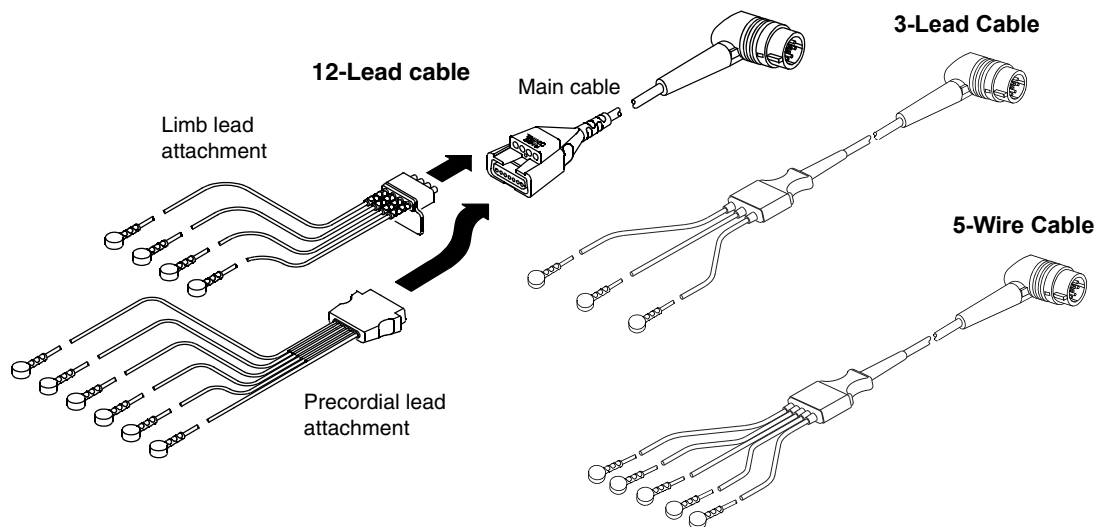

Figure 3-2 12-lead and 3-lead, and 5-wire ECG Cables
There are three ECG cables available for ECG monitoring as shown in Figure 3-2: the 3-lead and 12-lead cables and the 5-wire cable.
- 1 Insert the precordial lead attachment into the main cable as shown in Figure 3-2.